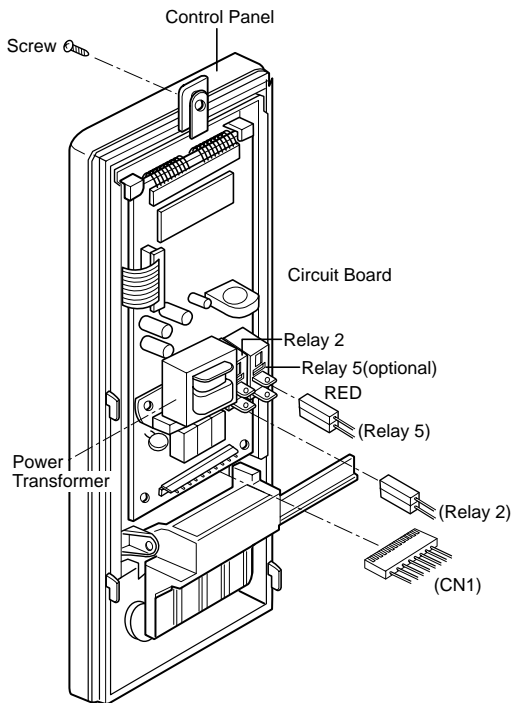

Figure 1
A. REMOVING POWER AND CONTROL CIRCUIT BOARD (Figures 1, 2 and 3)
- (1) Remove a screw securing the control panel assembly to the oven cavity.
- (2) Remove the control panel with pushing it upward.
- (3) Remove the three connectors (CN1) and wire leads (Relay2 and, or Relay5) from the circuit board.